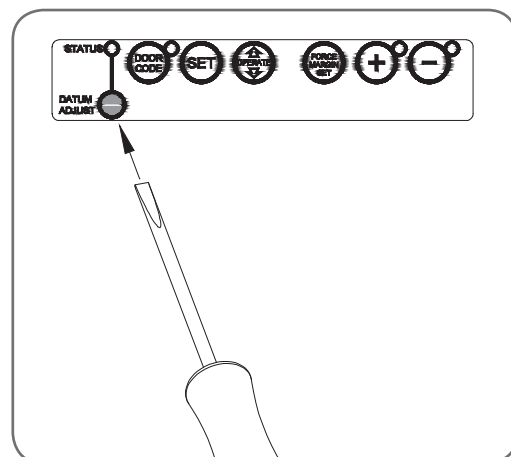

fig 09
1. Press and hold the Door Code button (**Fig. 09**).